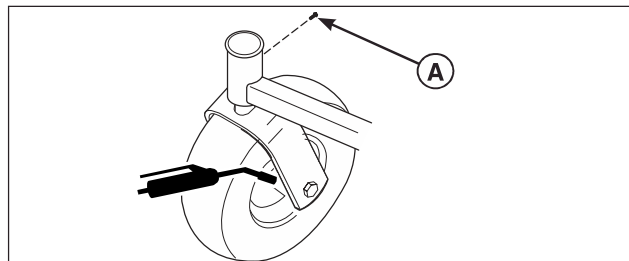

Figure 27. Front Caster & Wheel
1. Remove the 1/4-28 bolt (A, Figure 27) screwed into the caster and install a 1/4-28 grease fitting.